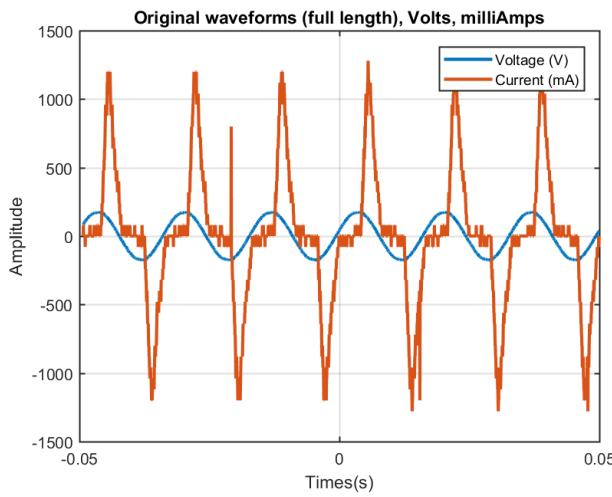

Fig. 5. Voltage and current waveforms of a inductive load.
2) *Drill (inductive load)*: The current behaviour for inductive loads is different to resistive loads. Current waveform is not a pure sine signal, because there are harmonic components that change shape current signal. This can be observed in the Figure 5 and 6. The waveform present peaks as a result of current harmonic component: $3f_0$, $5f_0$, $7f_0$ and $9f_0$, where f_0 is fundamental frequency (60 Hz). In addition, there are an phase difference between both signal: current signal is slow respect to voltage signal.